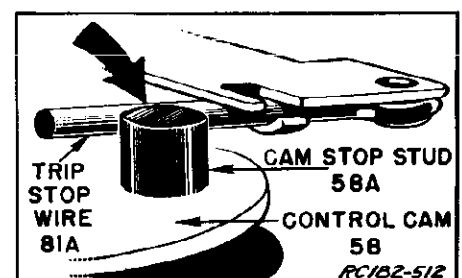

Figure 11 - Positioning Trip Stop Wire.
1. Make certain that the On-Off Reject knob (1) is tight and down as far as it will go on the push-off shaft (8).
2. Check to be sure that the reject spring (2) pulling the push-off shaft (8) up as far as will go. The reject spring (2) should rest on washer (3) and should not slip between it and the push-off shaft (8).
3. Bend the end of the reject link (84) enough that when it is resting on the end of the push-off shaft (8) it causes the top of the trip stop wire (81A) to be level with the top of the main cam stop stud (58A). See Figure 11.
4. Adjust the trip adjusting screw (85) until the point of the pawl (87A) is even with the smooth side of the trip serrations (83) outlined in paragraph 8 of the RC180 & RC181 service manual.
2. Adjust the reject link adjusting screw (84) until there is approximately 1/32 of an inch space between the round end of the reject arm (84B) and the rivet on the push-off arm and link assembly (62). If there is no space between these two parts, it will be possible for the changer to begin its change cycle when the On-Off Reject knob is turned to the "OFF" position.
3. Adjust the trip adjusting screw (85) until the point of the pawl (87A) is even with the smooth side of the trip serrations (83) outlined in paragraph 8 of the RC180 & RC181 service manual.
4. If the top of the trip stop wire (81A) is not level with the top of the main cam stop stud (58A) as shown in Figure 11, bend the wire enough to make it even with the top of the stud.